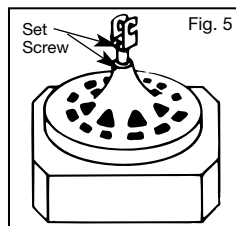

Fig. 5
- B.** Back out set screw in neck of fan motor housing and hanger bracket so pipe can be screwed in. Screw the pipe into the fan until tight (at least $4\frac{1}{2}$ turns). Feed wire through hanger bracket and screw hanger bracket onto pipe until tight (at least 3 turns). Then use pliers to tighten both hanger bracket and pipe together. Tighten the set screw in the motor housing with pliers. Securely tighten the set screw in the hanger bracket. See Figure 5.